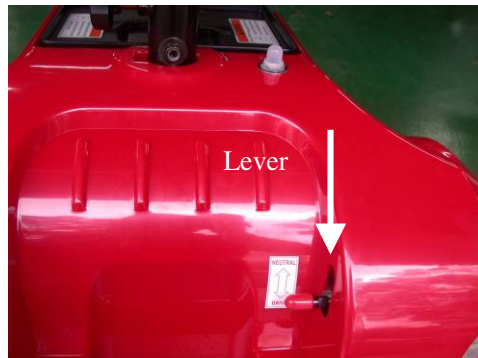

Fig 4.2
- ◆ Freewheel Mode (Fig 4.2) : Pull the lever up and the scooter can be moved manually.